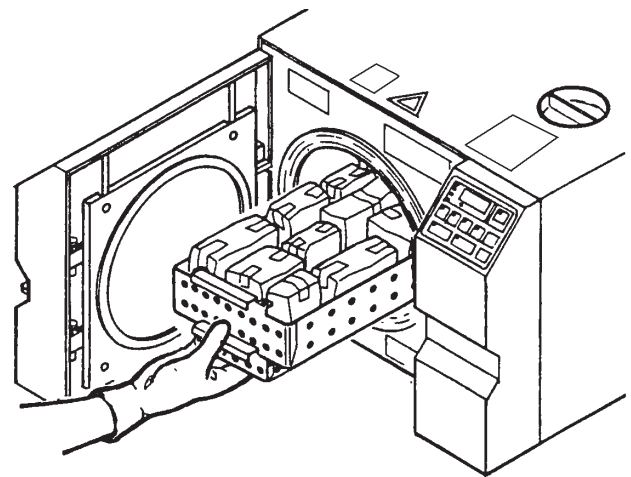

**Figure 3C-15**
2. Carefully insert trays into the sterilizing chamber (Figure 3C-15).
The following procedure is used to alter preset cycle parameters for a given load (see Figure 3C-16 for touch pad locations). Consult Table 3C-1 for minimum times and temperatures for various load types. Read through the entire procedure prior to programming the controller as there is a 5-second time limit between steps.